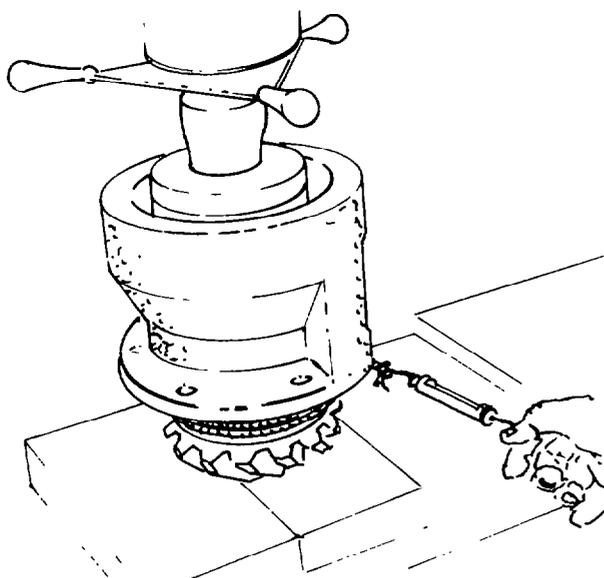

Fig. 310 — Checking Bearing Pre-loading
- f. Install the front bearing cone into the bevel pinion housing, then position the assembly on a hydraulic press. Wrap a cord several times around the pinion housing at the pilot area and attach a suitable spring scale to the end of the cord. Apply a pressure of 15 450 kg (34 000 lb) to the assembly with the hydraulic press, then with a slow and steady pull, pull on the scale until the housing rotates. The correct load on the scale to keep the housing turning slowly and evenly is 1.363 – 2.727 kg (3 – 6 lb). If the reading on the scale is not within the correct range, replace the spacer with thicker or thinner spacers as necessary to obtain the correct bearing preload (see fig. 310). A selection of 23 hardened steel spacers are available. These spacers are approximately half the thickness of the production spacer, and when used in combination-of-two the resultant thickness can be adjusted in increments of 0.025 mm (0.001 in.) for precise bearing spacing and preloading. Measure the thickness of the spacer being used, then locate the required thickness in Table 1. Follow the columns to the left and to the top of the table to obtain the sizes of the spacers to be used in combination. After establishing the correct bearing preload, remove the bevel pinion housing from the press.